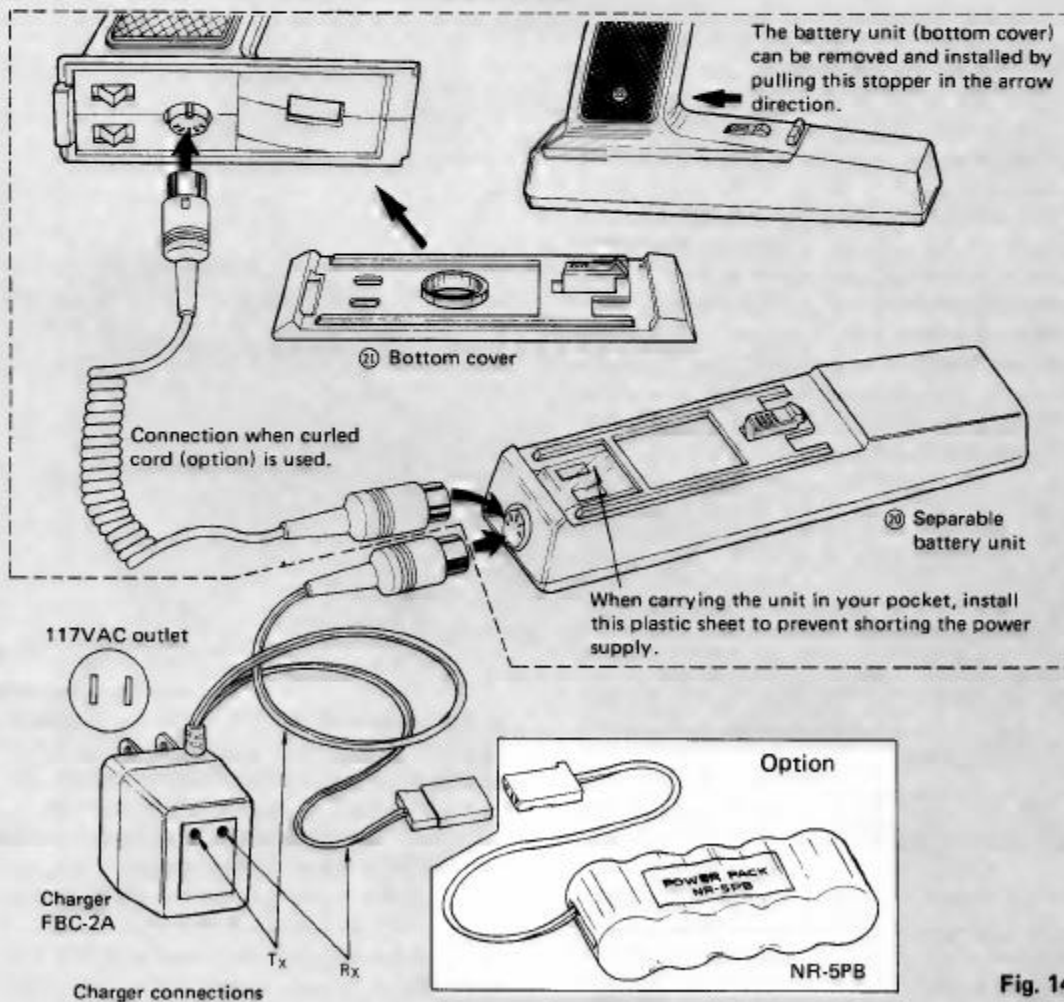

Fig. 14
•The MAGNUM SERIES Nicd battery section and separable battery unit can be mounted and dismantled as shown in Fig. 14. The Nicd battery section and separable battery unit carried in your pocket by remove them from the transmitter, installing the 21 bottom cover, and connecting the optional curled (FTA-2) cord to the battery unit.